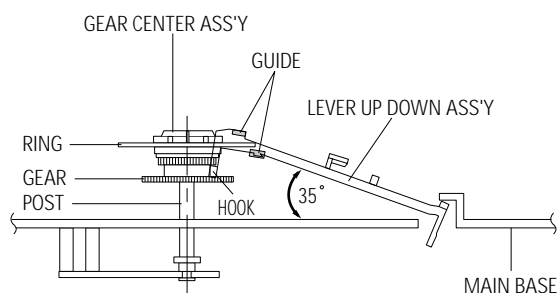

Fig. 4-30 Lever Up Down Ass'y Removal
- 1) Insert the Lever Up Down Ass'y ❶ in the rectangular holes on Main Base as shown in Fig 4-30.
- 2) Lift the Lever Up Down Ass'y ❶ about 35°.
- 3) Insert Ring of the Gear Center Ass'y ❷ in the Guide of the Lever Up Down Ass'y ❶.
- 4) Insert the Gear Center Ass'y ❷ in the post on Main Base.
- 5) Push down the Lever Up Down Ass'y ❶ for locking of the Hook.